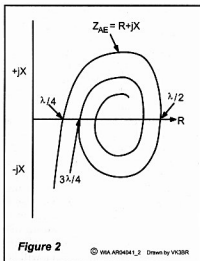

Fig 2 – Feed-point impedance of a fixed-length antenna.
Figure 2 shows how the feed point impedance  $Z_{AE}$  changes as the frequency applied to a fixed-length antenna is varied. Its reactance is positive (+jX, inductive) at some frequencies and negative (-jX, capacitive) at others, but the resistive component (R) is always positive.